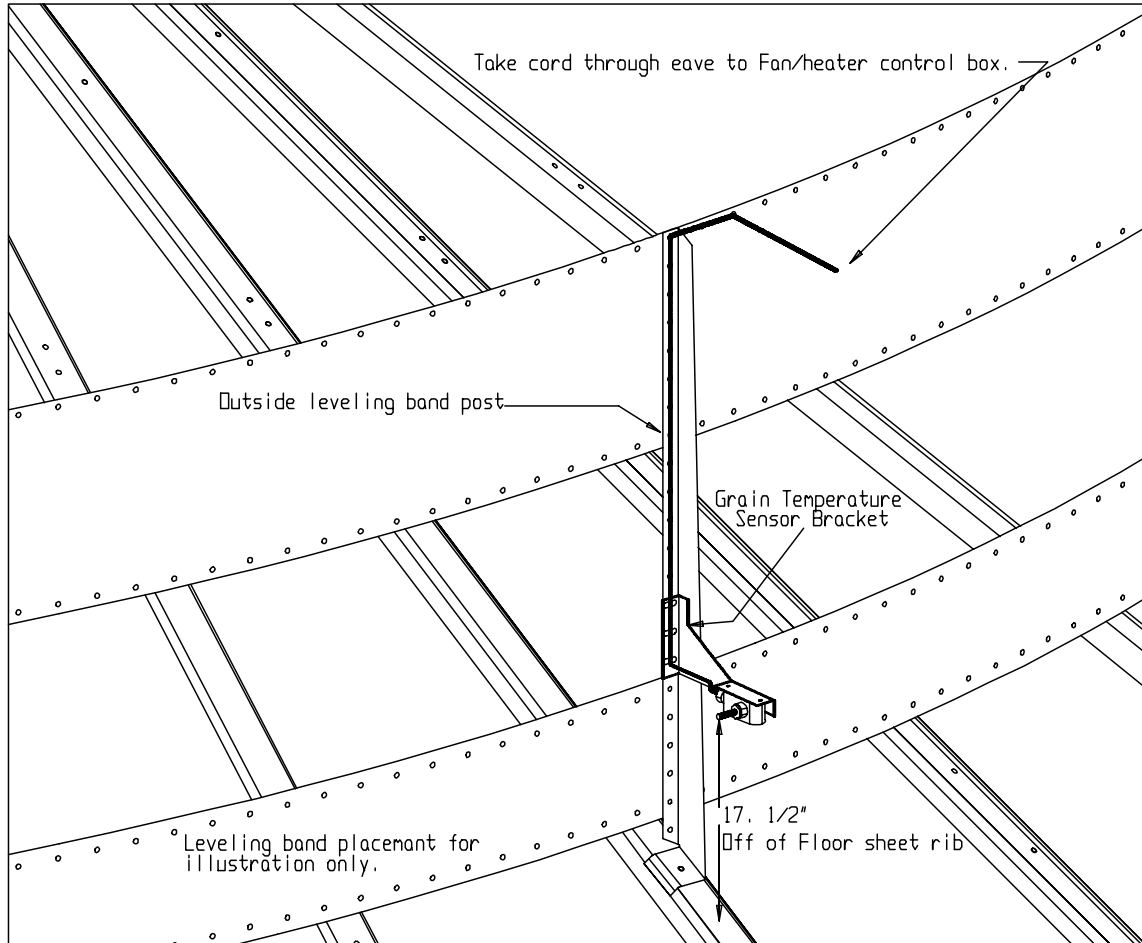

Figure 2: Illustration of grain temperature sensor mounted on outside leveling band post.
2. Mount the grain temperature sensor bracket on an outside leveling band post (figure 2).
2. Mount the four grain temperature sensor brackets evenly around the drying chamber on outside leveling band posts (figure 2).